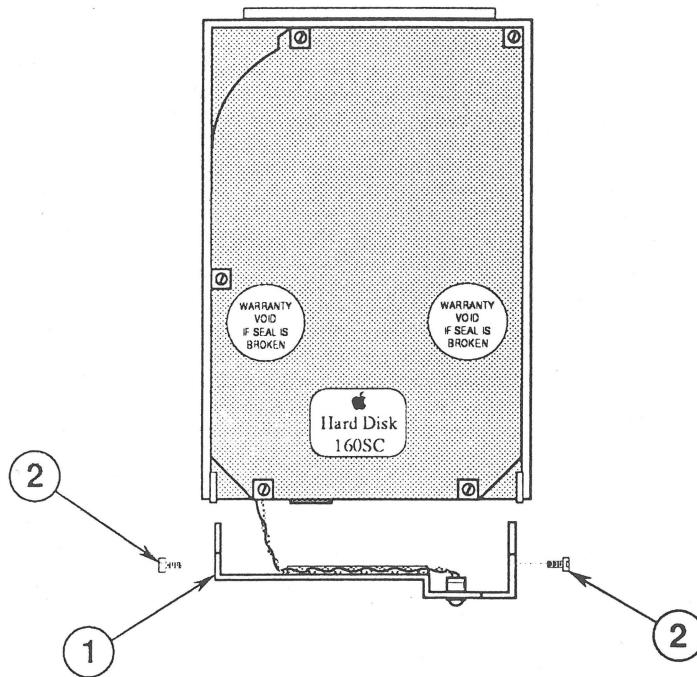

FIGURE 17
4. **For 160SC hard drives**, replace the end bracket (with attached LED cable) (Figure 17, #1) on the hard disk assembly, and install four screws (Figure 17, #2). Use the torx screwdriver.